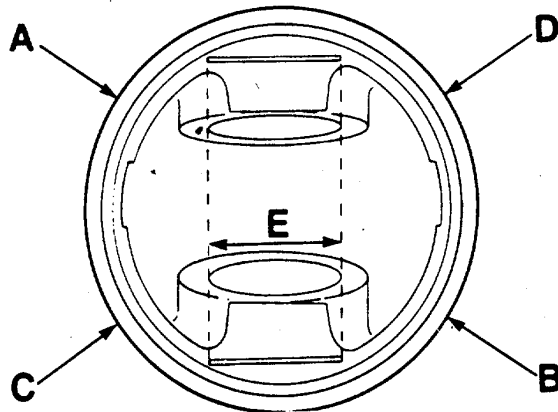
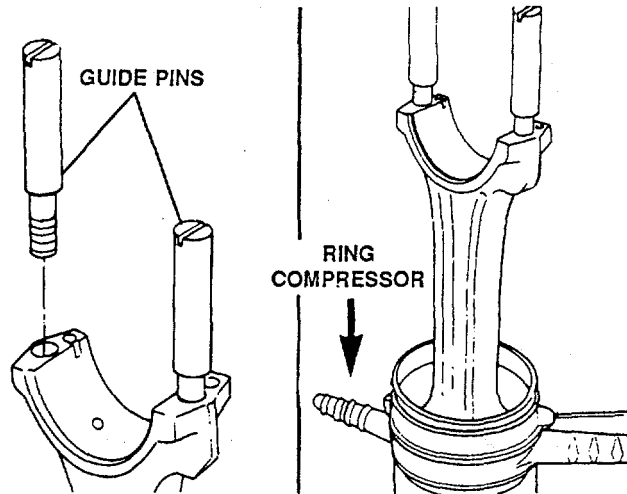

FIGURE 3-58. Ring Gap Positions.
FIGURE 3-59. *Guide Pins and Ring Compressor.*
- f. Position the ring gaps as shown in Figure 3-58 .
- (1) (Top) Ring - A
- (2) Second Ring - B
- (3) Third Ring - C
- (4) (Bottom) Oil Ring - D
- (5) Piston Pin - E
- g. Install the connecting rod guide pins (Figure 3-59).
- h. Use piston ring compressor to compress the rings (Figure 3-59).